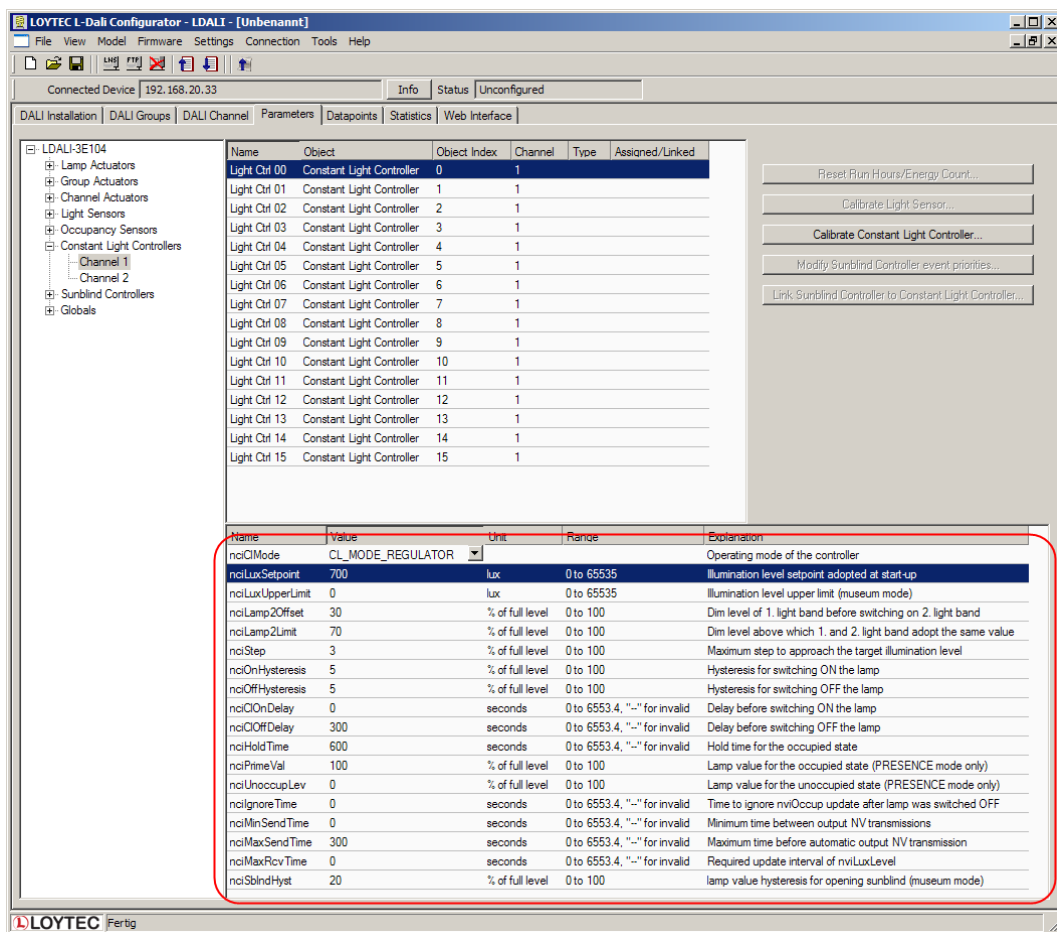

Figure 21: Parameterize Constant Light Controller
2. Select the constant light controller with index 0 as shown in Figure 21. The parameters of the selected constant light controller are displayed in the lower half of the window.